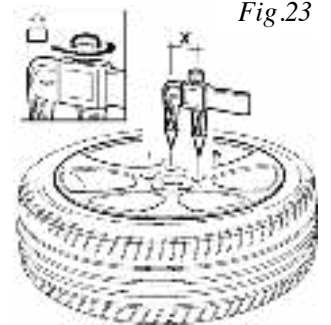

Fig.23
- With the caliper supplied, measure the distance between 2 adjacent lugs on the wheel and tighten the knob to fix this measurement (ref. fig. 23).